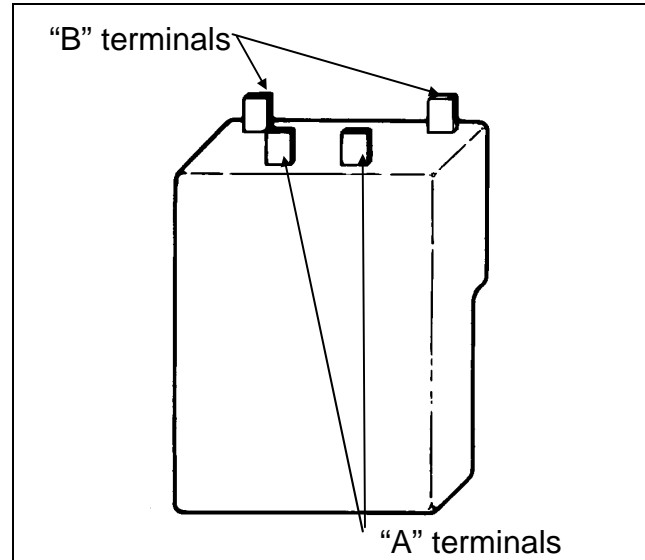

Figure 4-2. Thermostat Terminals.
3. Connect the continuity tester across the B terminals indicated in Figure 4-2. This set of contacts should be closed whenever the thermostat is on. To test, start with the thermostat in the OFF position. Then turn the thermostat up until you hear a distinct click (at about the 175°F/79°C setting). At this time, there should be continuity across the B terminals.